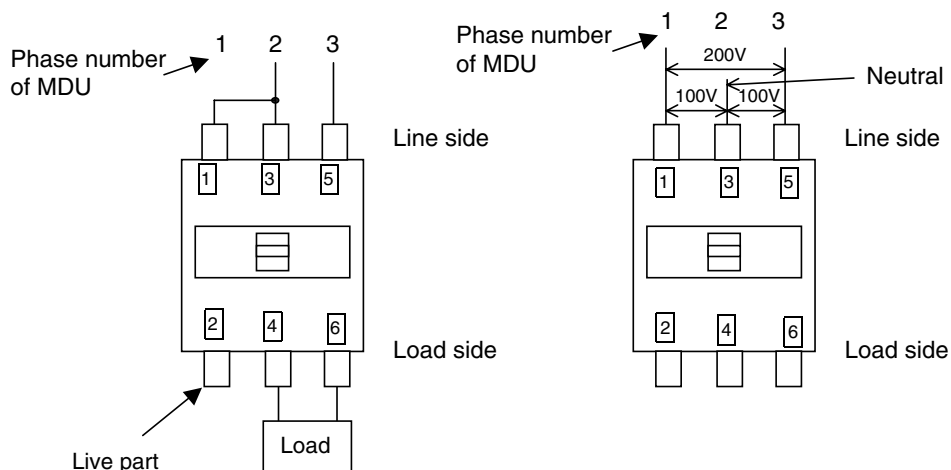

Fig1. Connection of using in 1 phase 2wire. Fig2. Connection of using in 1 phase 3wire.
- When MDU is used in 1 phase 2 wire, the connection is shown in figure 1.